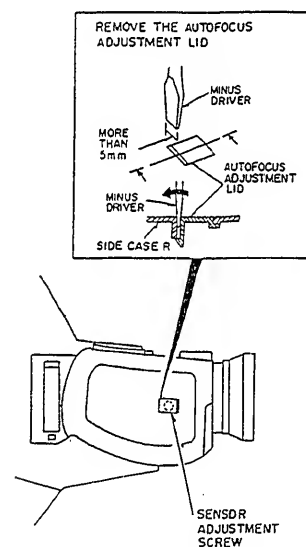

Fig. 4-12
1) Sensor Position Adjustment (Fig. 4-12)